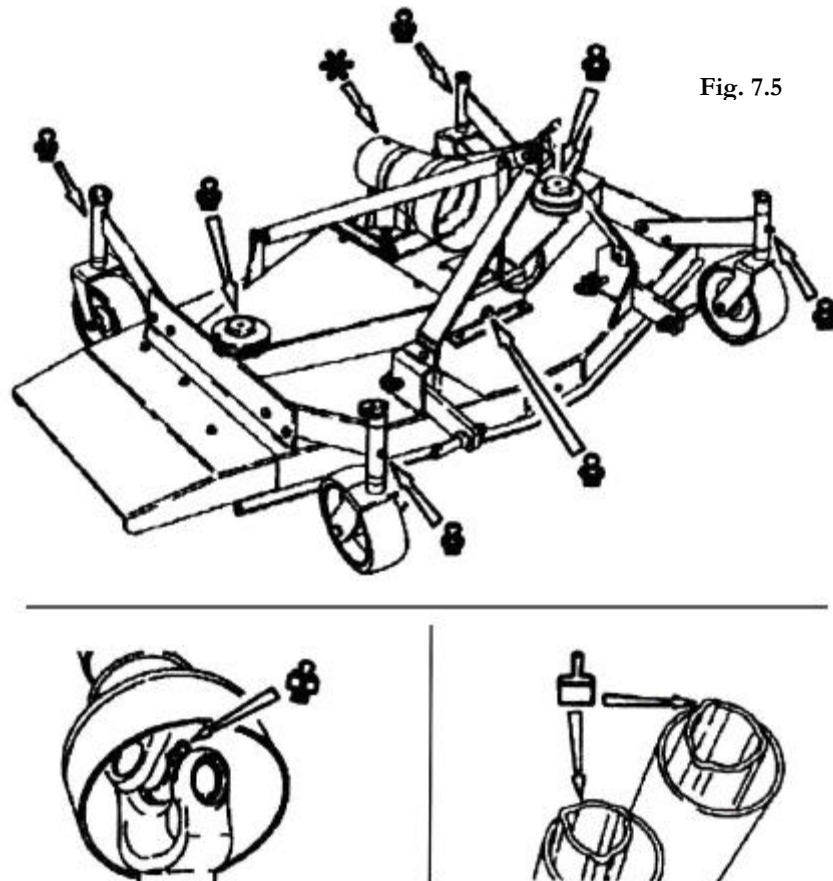

Fig. 7.5
2. All points are greased as described in Fig 7.5. The oil level in the gearbox is also checked.
Lubricant & Greasing Points (newer models now have grease extensions)– Fig. 7.5